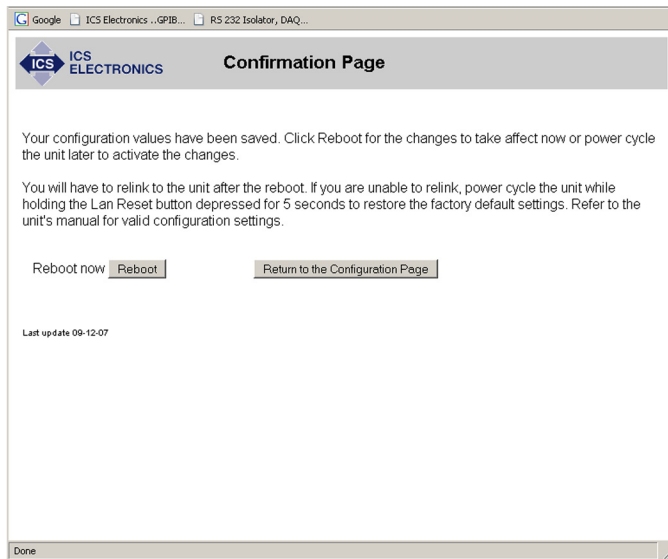

Figure 2-7 8099 Confirmation Page
- Enter the new settings as desired. If you select DHCP for the TCP/IP Mode, the page blanks out the IP, Net and Gateway addresses as they will be supplied by your DHCP server. Enter the serial settings in the lower half of the page. Check the entered values carefully as the unit's webserver does minimal error checking. Press the 'Update Flash' button when done. A Confirmation Page similar to the one shown in Figure 2-7 will appear in your browser.